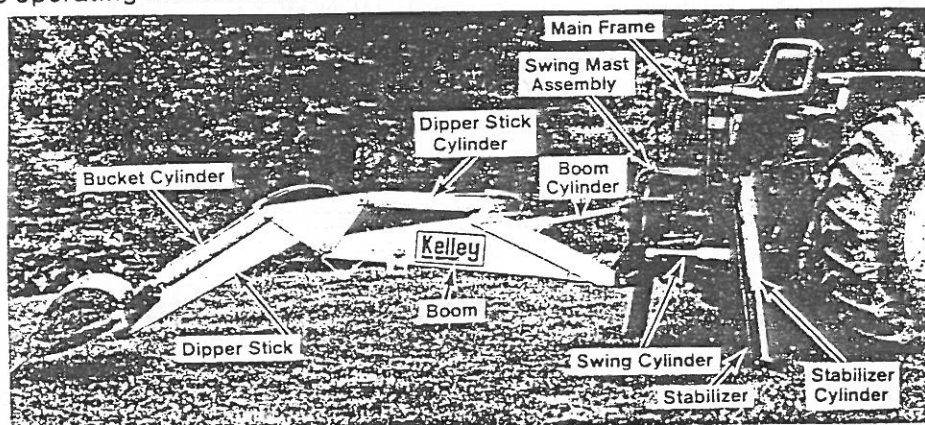

Figure 3 — Description of Major Backhoe Parts
8. Familiarize yourself with all of the terms that will be employed in the following instructions by studying Figure 3 — Description of Major Backhoe Parts.